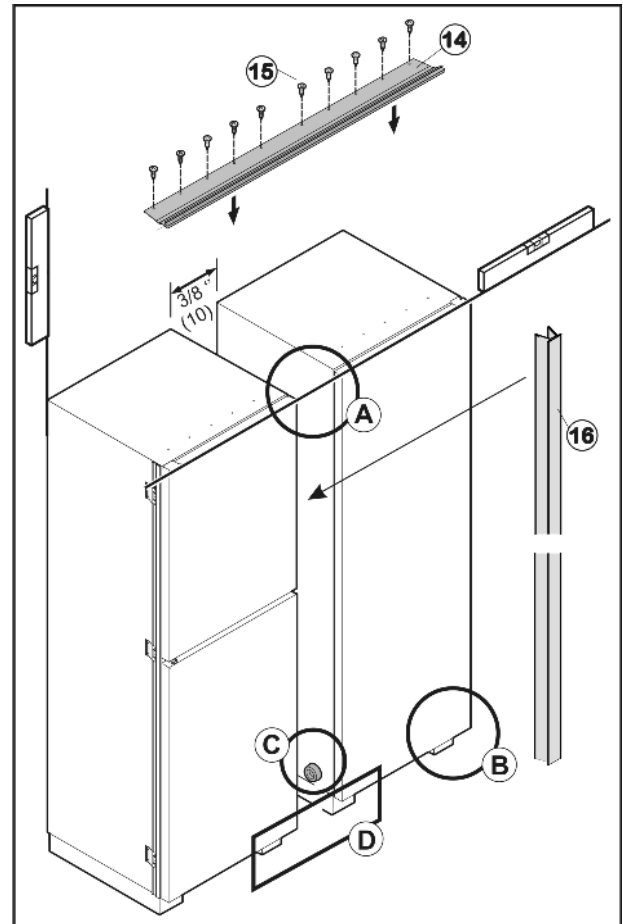
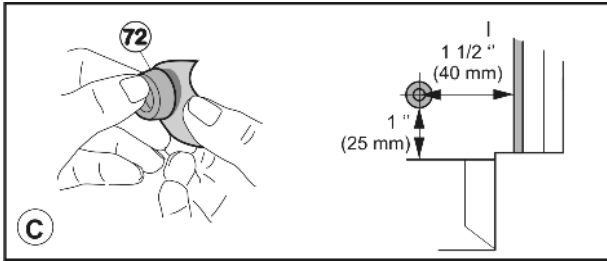
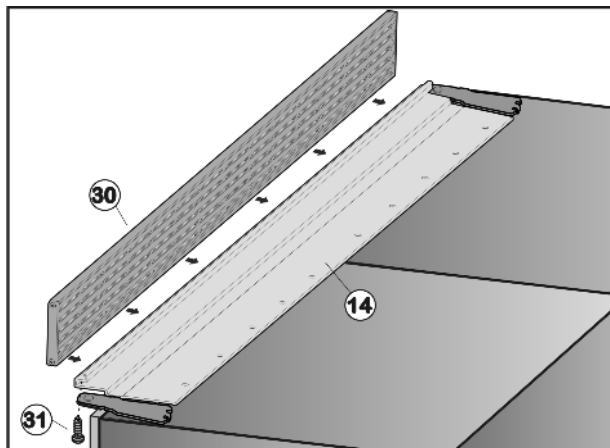
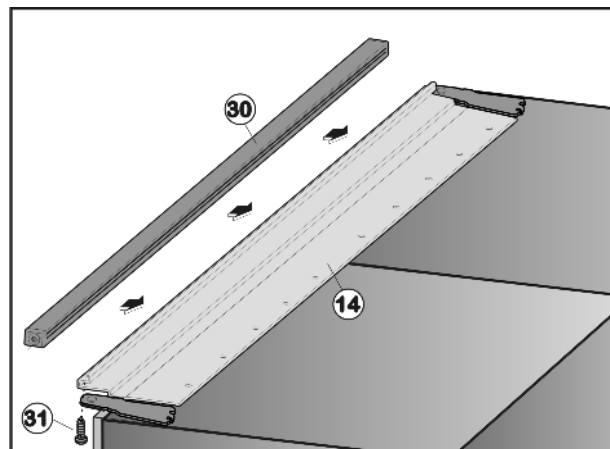

Fig. 40
Fig. 42
Fig. 47
Fig. 48
- Glue spacer Fig. 42 (72) onto the lower part of the side wall on the handle side, approximately 1.5 in. (40 mm) as measured inwards from the front edge of the appliance.
- Position end strip Fig. 40 (14) over the installation contour and align it such that the holes in ventilation grille and installation contour are above each other.
- Screw on upper installation contour Fig. 40 (14) through the pre-cut holes using screws Fig. 42 (15).
- Position ventilation grille Fig. 47 (30) over the installation contour Fig. 40 (14) and align it such that the holes in ventilation grille and installation contour are above each other.
- Screw ventilation grille Fig. 47 (30) to installation contour from below using four screws Fig. 47 (31).
- Position end strip Fig. 48 (30) over the installation contour Fig. 40 (14) and align it such that the holes in ventilation grille and installation contour are above each other.
- Screw end strip Fig. 48 (30) to installation contour from below using four screws Fig. 48 (31).